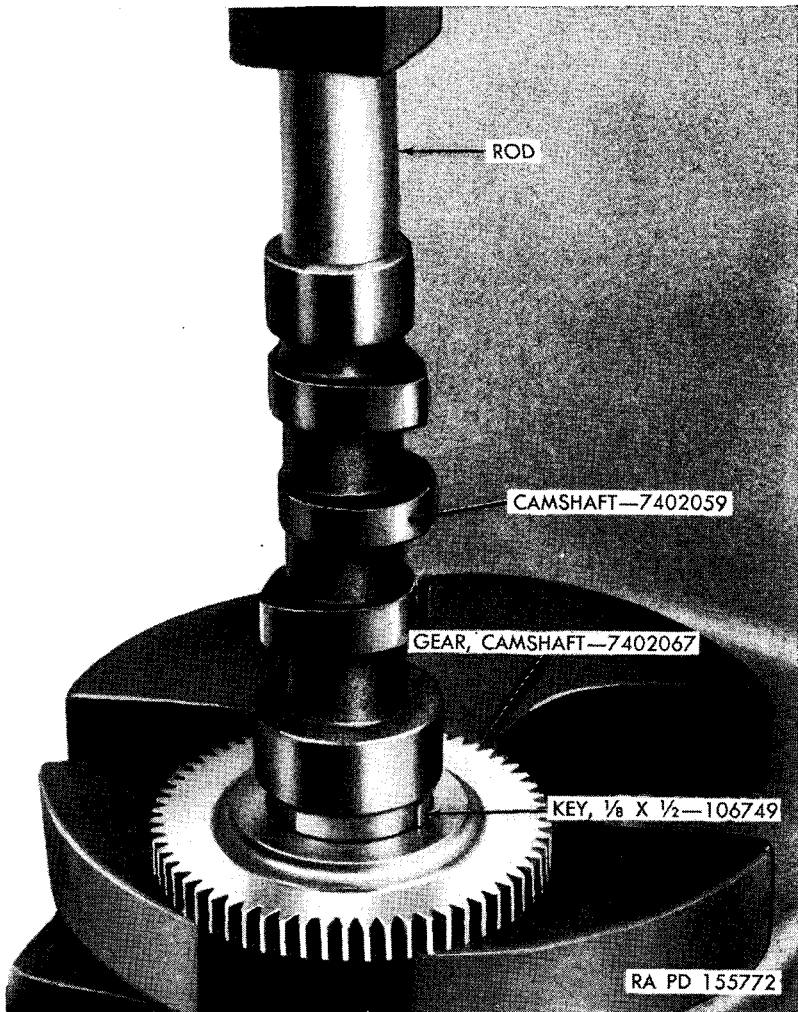

Figure 62. Pressing camshaft into gear.
- b. Rest camshaft gear on bed of arbor press, apply engine oil to gear end of camshaft, and using short length of 1-inch OD rod, start camshaft straight into camshaft gear. Press gear tight against shoulder on camshaft (fig. 62).